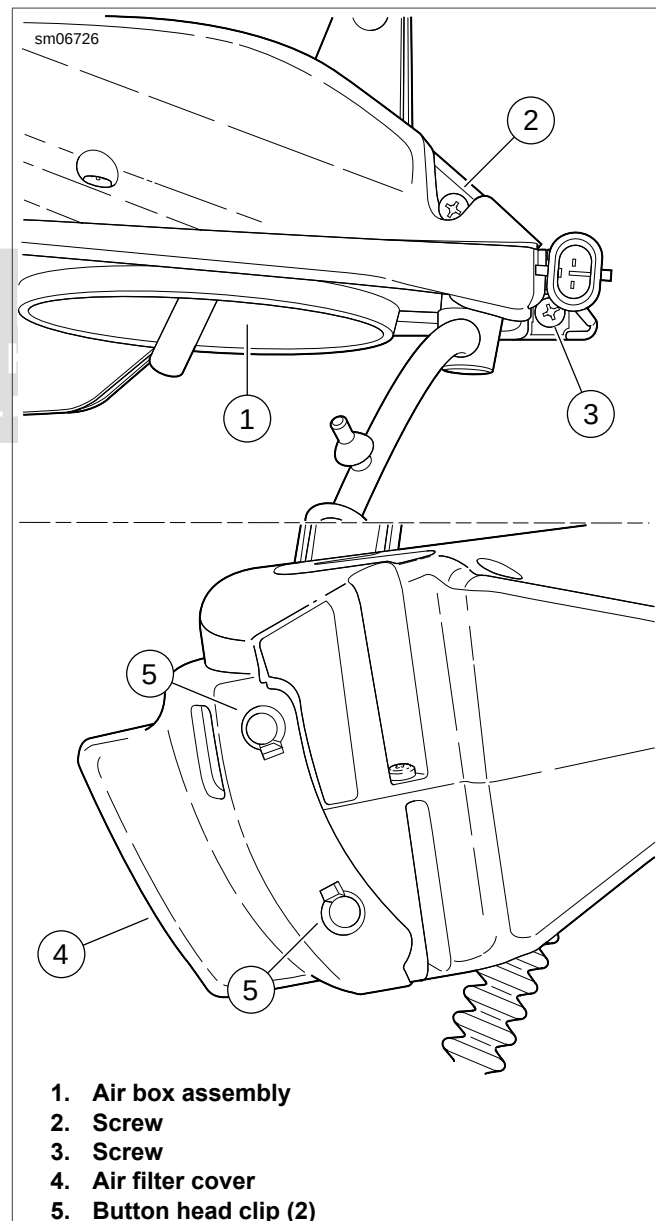
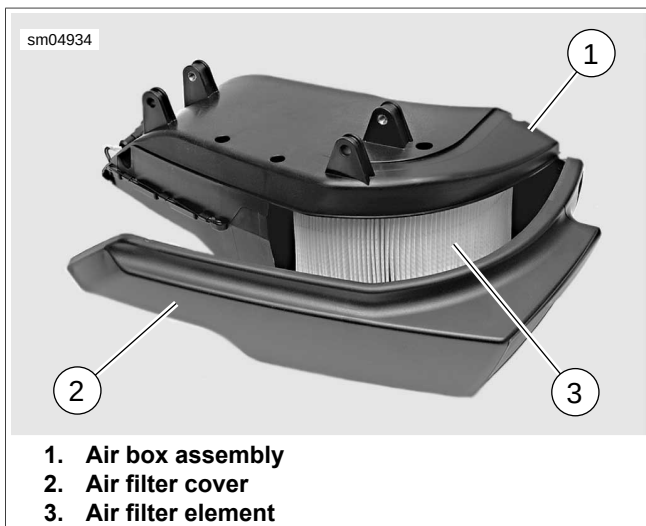

Figure 1-11. Unbolting Air Filter Cover
Figure 1-12. Removing Air Filter Cover
3. See Figure 1-11. Remove the two screws (2, 3) securing the air filter cover (4) to air box (1).
4. Using a small flat blade screwdriver, gently pry two button head clips (5) securing air filter cover to air box. Discard button head clips.
5. See Figure 1-12. Gently pull rear end of air filter cover (2) away from air box. Disengage front of air filter cover from the air box and set the cover aside.
3. See Figure 1-12. Position front of air filter cover (2) onto air box. Do not install button head clips at this time.